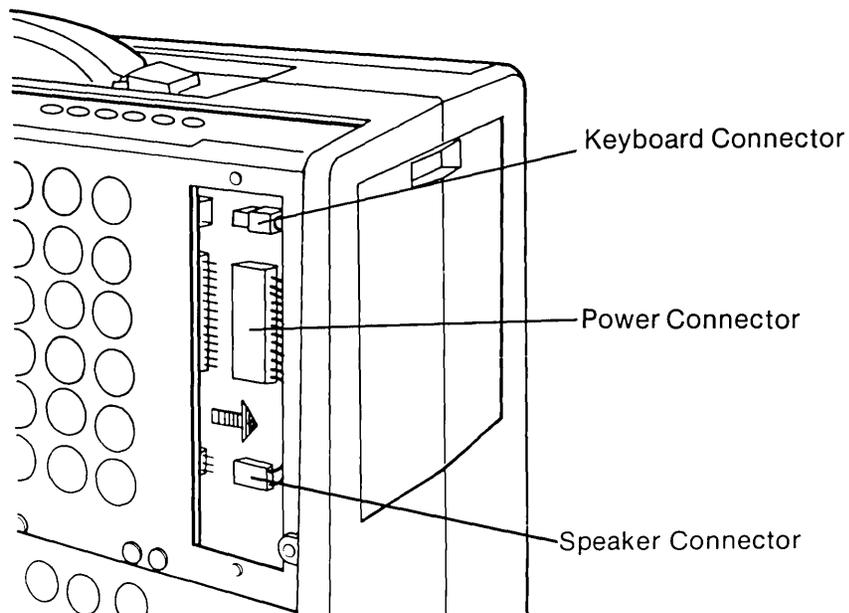

Figure 11-21. Connecting the Keyboard Connector, Power Connector, and Speaker Connector.
3. Connect the following processor board connectors: keyboard connector, power connector, and speaker connector (see Figure 11-21).